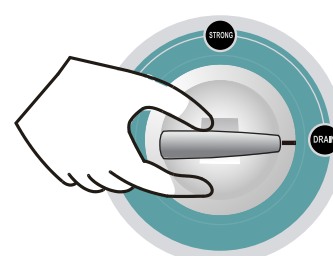

Figure 5
- 6、After washing, set the “WASH SELECTOR” at “DRAIN”. (Figure 5)